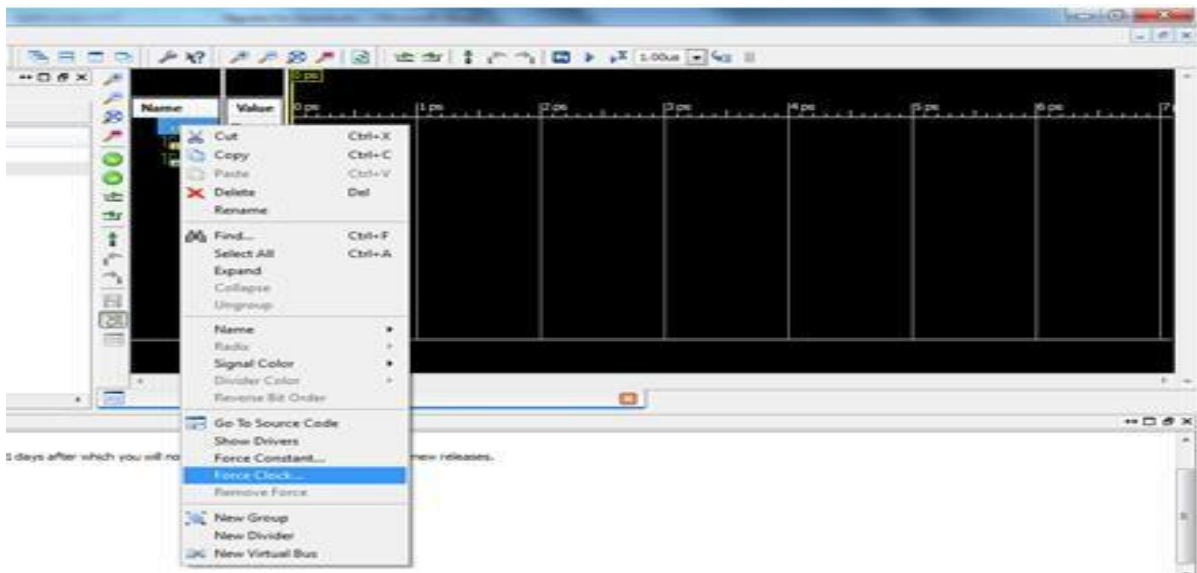

Figure 5: Simulation Process-Assigning clock input
- To force the input signal (a & b) by an alternating pattern (clock), Right click on the input port “a” (**figure 5**) and select the Force clock.